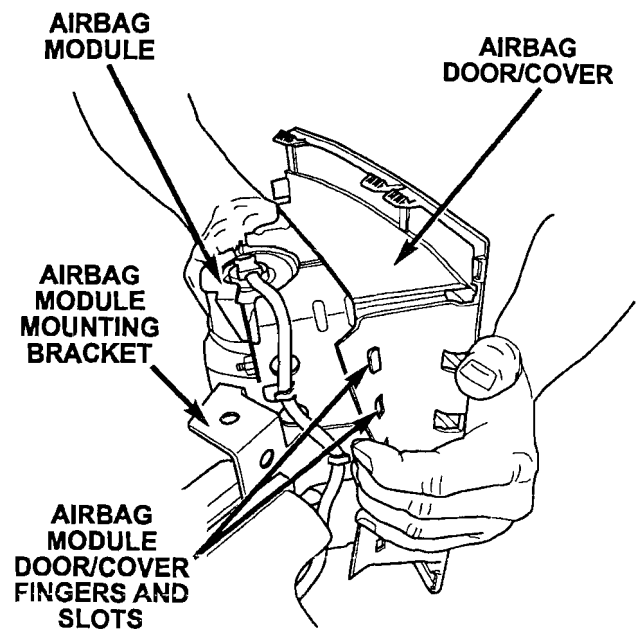

Figure 6
10. Remove the airbag plastic door/cover by rolling the cover off the retaining fingers (Figure 6).